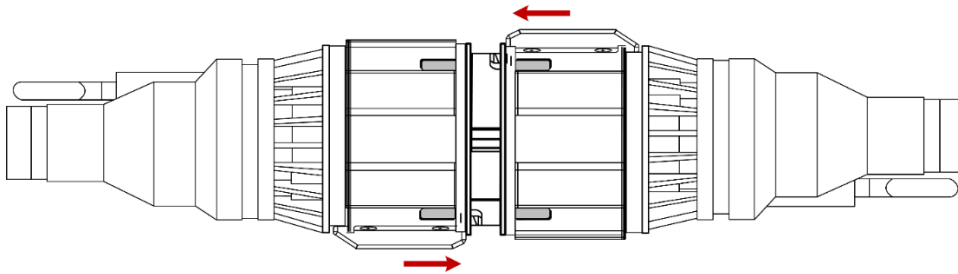

Figure 23: Connectors Partially Mated and in the Lock Position
2. Press the Inline Connectors toward one another as illustrated in Figure 23. If both Connectors are in the Open position they will fully mate, otherwise they will partially mate as shown in Figure 23.